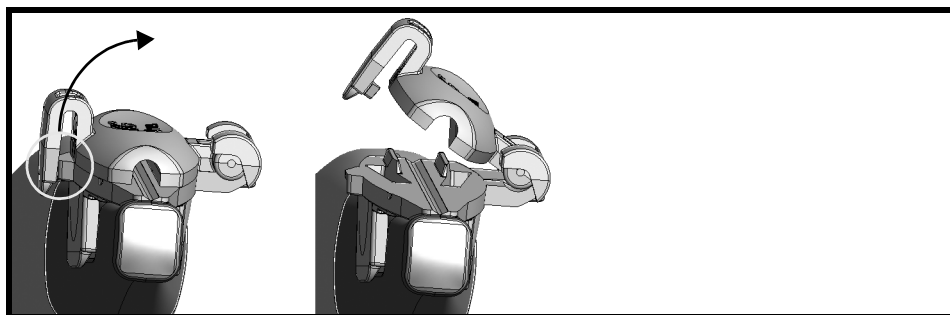

Figure 6. Push to release the needle guide on the N11C5s.
- 1 Hold the transducer with your left hand. With your right hand, carefully push the needle guide insert sideways until it opens up, see Fig. 6.